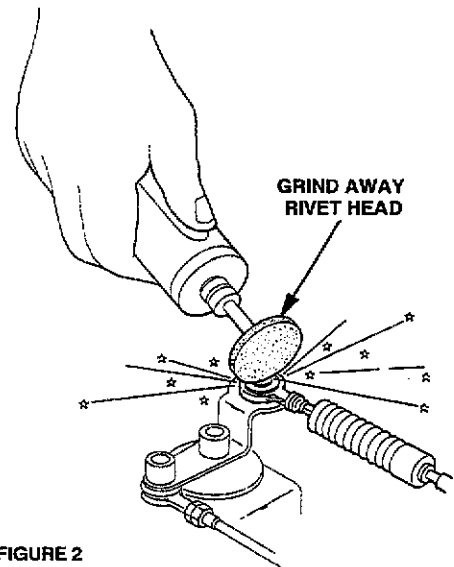

FIGURE 2
6. Grind away the rivet head with a die grinder or other tool. See to **FIGURE 2**.